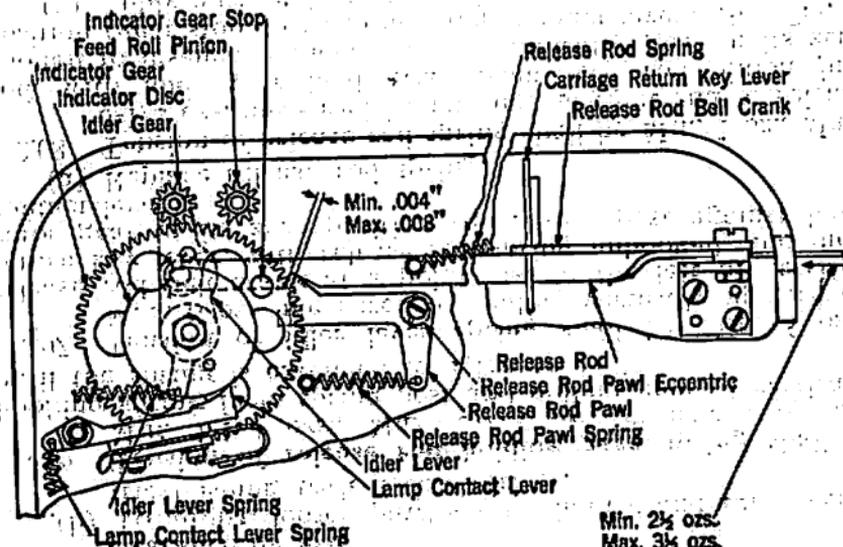

Fig. 3
3.05 Clearance between release rod holding pawl and holding surface of notch in release rod shall be Min. .004", Max. .008", with CAR RET key held in the depressed position and the indicator gear held in a position which allows the pawl to fully engage notch in release rod. See Fig. 3,
- 3.08 Tension of release rod spring shall be Min. 1 oz., Max. 3-1/2 ozs. measured by pushing on right end of release rod, with idler gear held away from feed roll pinion just enough to disengage them and with indicator gear in its zero position (gear stop post against lamp contact lever). See Fig. 3.